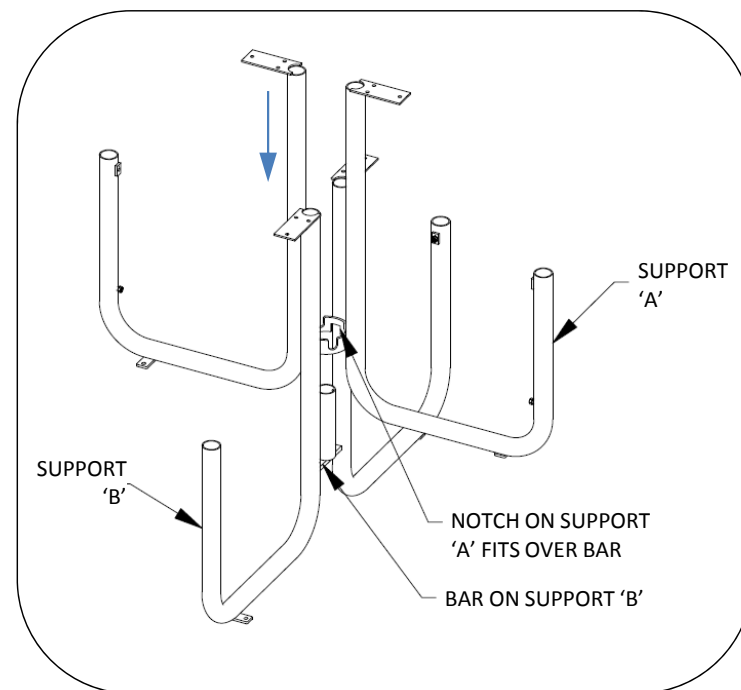
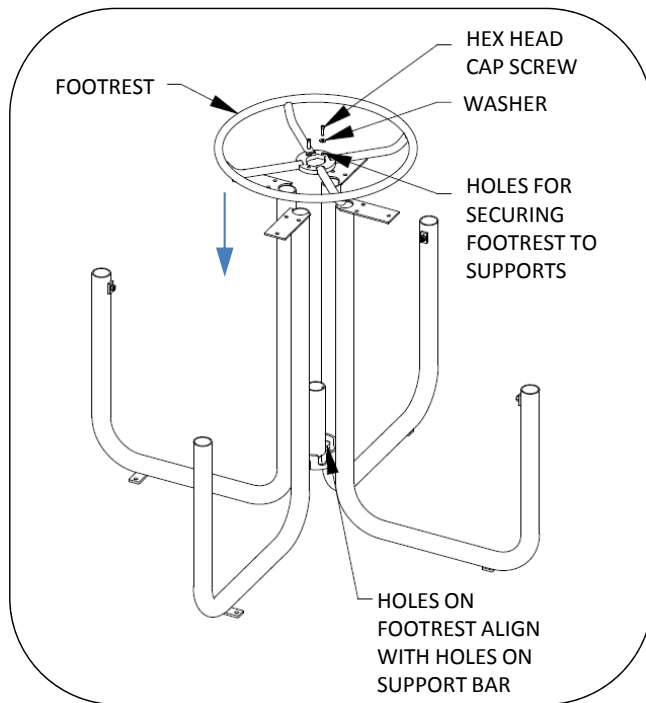

Fig. 1 – Assemble support legs
Fig. 2 – Attach footrest
PROCEDURE FOR ASSEMBLING SUPPORTS: See Fig 1 and Fig 2
2. Slide support 'A' over support 'B'. Align notch in support 'A' over bar in support 'B'. See Fig. 1.
4. Secure footrest to support legs with (2) hex head cap screws and washers. See Fig. 2.